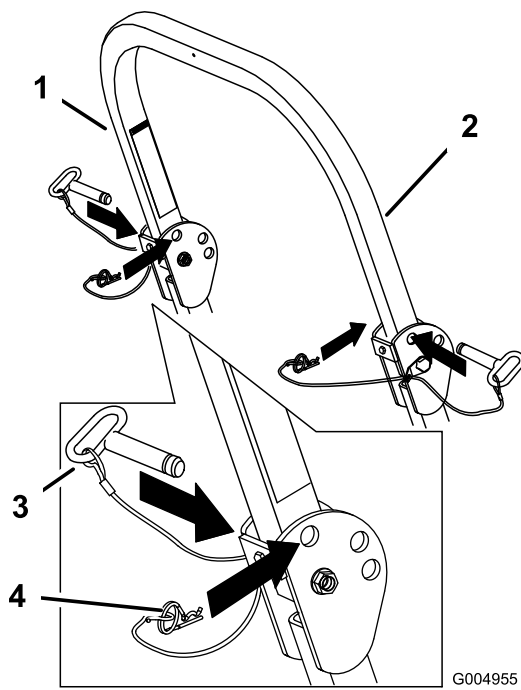

Figure 9
1. Remove the hairpin cotter pins and remove the two pins (Figure 9).
3. Install the two pins and secure them with the hairpin cotter pins (Figure 9).
4. To raise the roll bar, remove the hairpin cotter pins and remove the two pins (Figure 9).
5. Raise the roll bar to the upright position and install the two pins and secure them with the hairpin cotter pins (Figure 9).